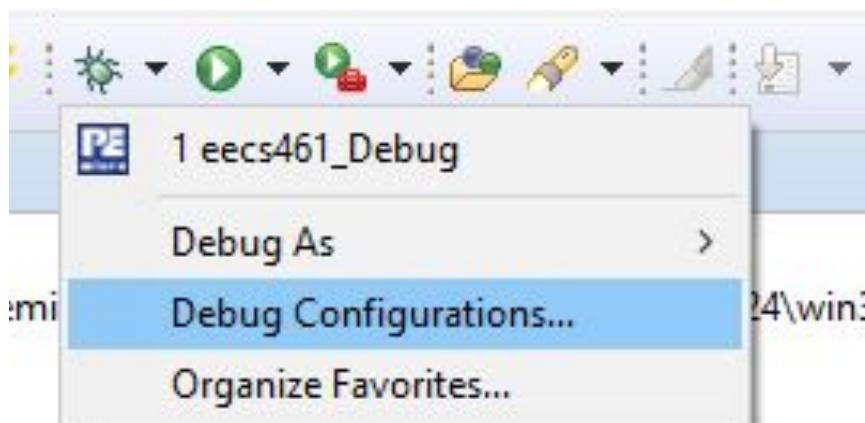

Figure 13: S32 Design Studio debugger.
- (c) Open S32 Design Studio from the desktop (use the workspace you have been using in lab) and click the drop down next to the little bug and select Debug Configurations (see figure 13).